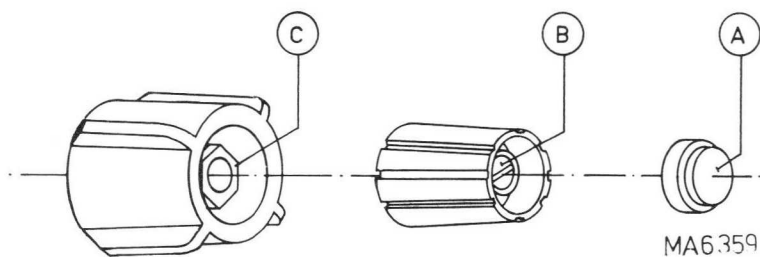

Fig. 7. Removing the knobs
B. REMOVING THE KNOBS (Fig. 7)